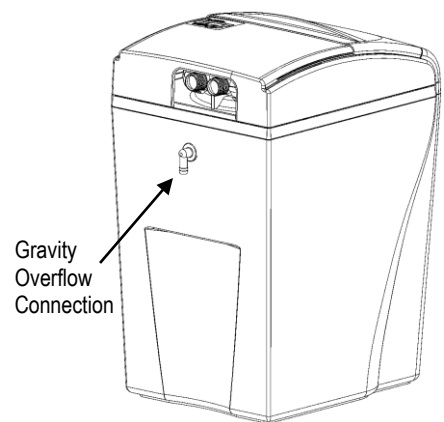

Figure 3: Gravity Overflow Connection
- A. Attach the gravity overflow connection elbow and check that it is in the down position. (See Figure 3)